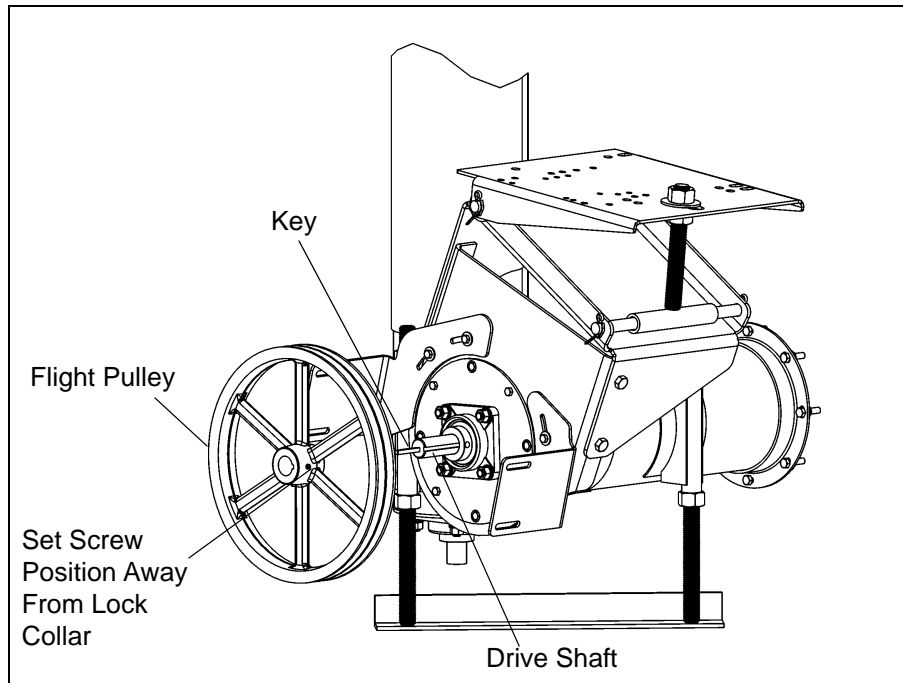

Figure 4S
- C. Once the Pulley is appropriately positioned, tighten the setscrew with a Hex head wrench to secure it to the Drive Shaft. (See Figure 4S)